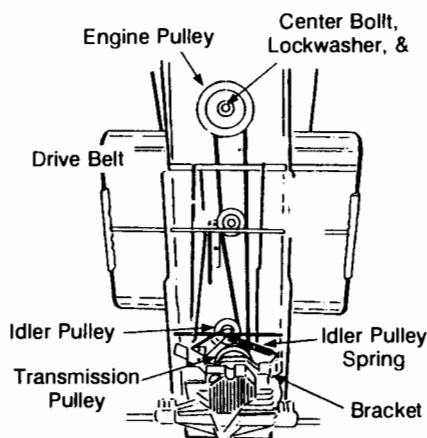

FIGURE 24
13. Remove the belt from around the idler pulleys, and remove from the three deck pulleys. See Figure 24.